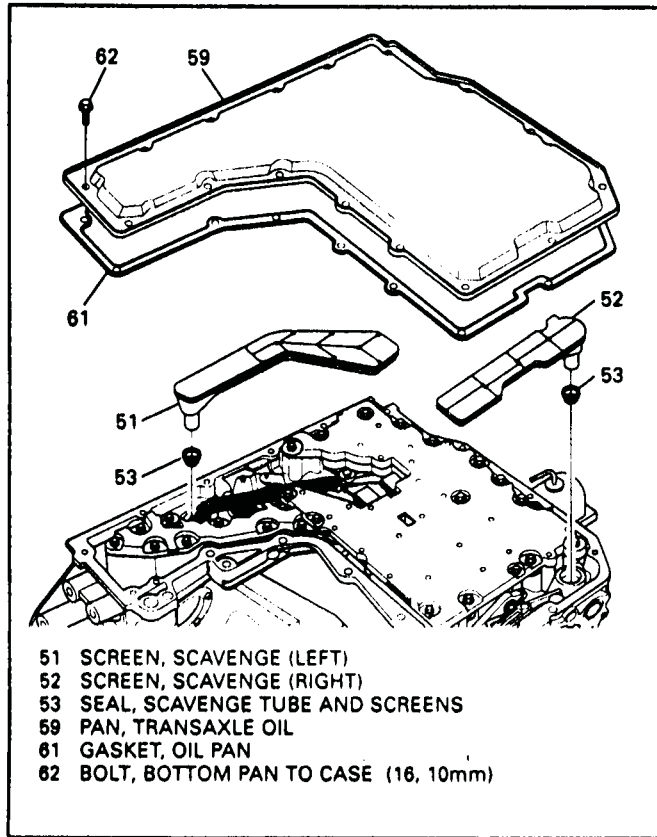

Figure 45
1. Remove 16 bottom pan bolts using a 10mm socket (See Figure 45).
3. Remove left scavenge screen and seal as shown in Figure 45.
4. Remove right scavenge screen and seal as shown in Figure 45.